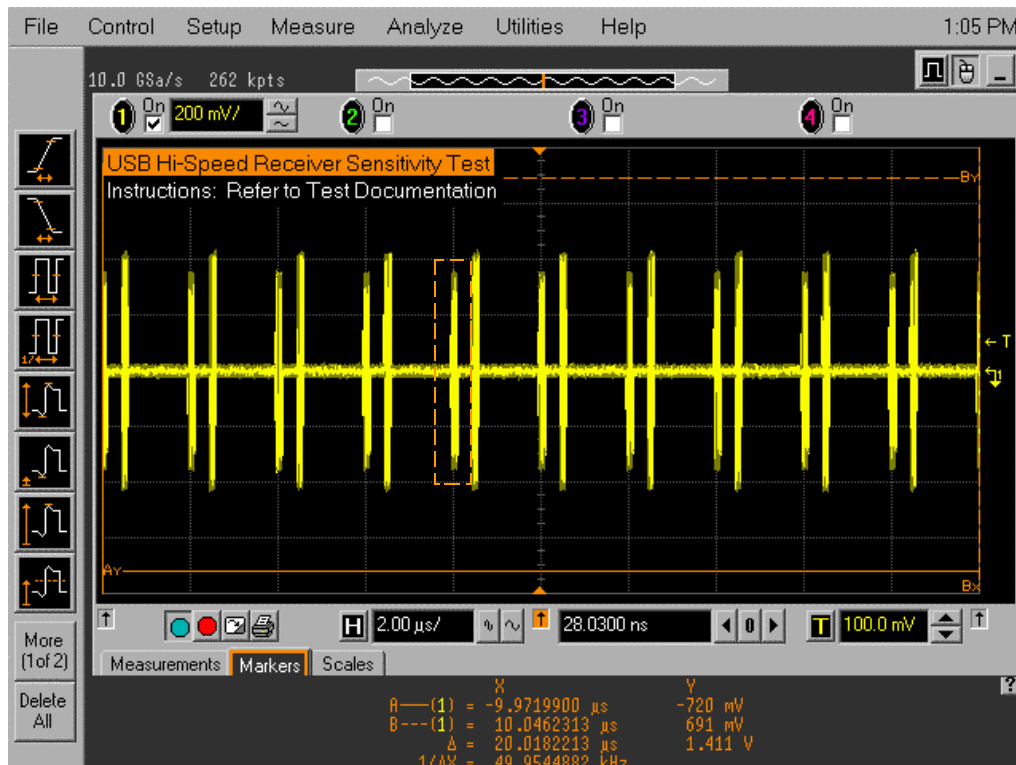

Figure 31. Zoom Box
- Zoom in the waveform by clicking inside the “Zoom Box” (see Figure 31).